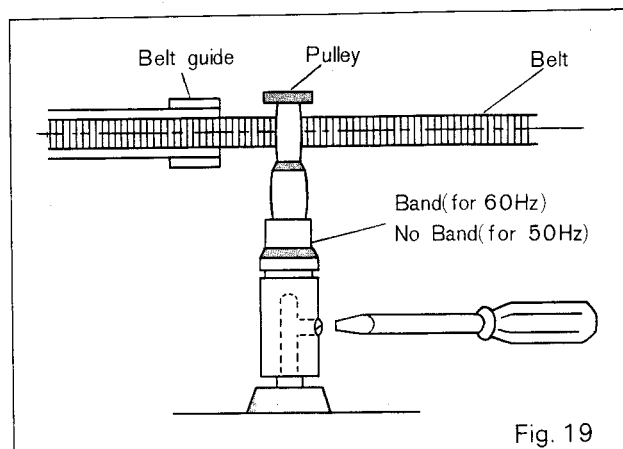

Fig. 19
- Yes: Check the pulley. (Fig. 19: 50 Hz pulley has no band; 60 Hz pulley has a band)
- Yes: Check the position of beltguide, pulley and belt. (Fig. 19)